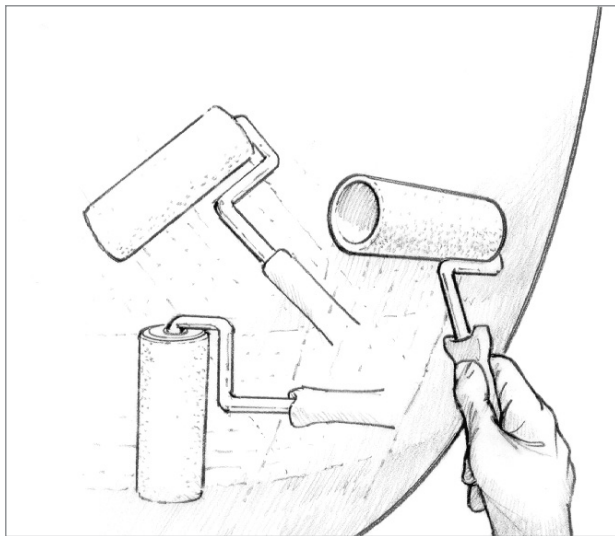

Figure 5-3 Apply a thin, even film of epoxy with a foam roller.
5. Apply a second coat of epoxy to the hull before the first coat becomes tack free. Spread the epoxy out to a thin even film with the thin foam roller (*Figure 5-3*). Continue applying the epoxy, overlapping small coverage areas until the batch is used up.